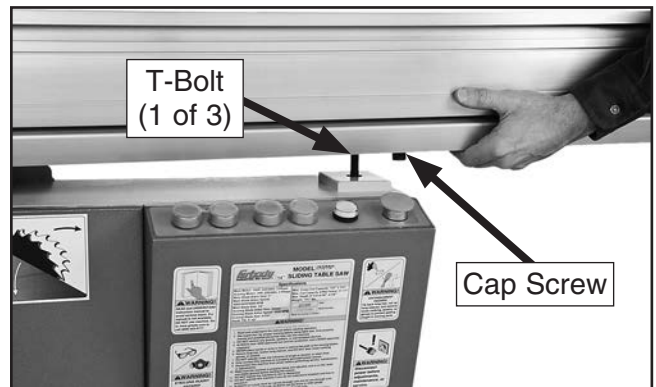

Figure 18. Inserting T-bolt into mounting hole on saw frame.
3. Lift sliding table over saw and lower T-bolts into mounting holes on frame, as shown in **Figure 18**.
Note: Make sure cap screw shown in **Figure 18** is on outside of cabinet frame and against mount edge.